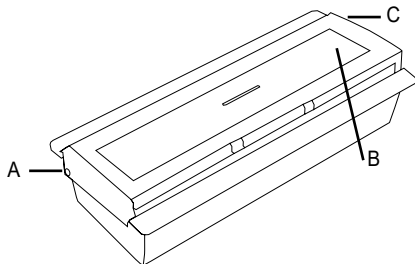

Figure 1: Doorbell-pushbutton
- a) Place the doorbell pushbutton in such a way on the work surface that the pivots of the transparent plastic face are at the rear (fig. 1 A and C).
- b) Using a pointed object (e.g. biro) carefully press now the small pin on the left side (fig. 1 A).
- c) Now you should be able to push up and remove the transparent plastic face (fig. 1 A).
- d) You can now open the small screw (fig. 1 B) using a small Phillips screwdriver and remove the front of the doorbell pushbutton behind which there is the PCB with the battery.
- b) Before assembling ensure that the small screw (fig. 1 B) can grip at the right spot. If required turn one part of the housing by 180°. Please make sure that the rubber gasket sits correctly within the housing.
- d) Carefully drive in the small screw (fig. 1 B) with a small Phillips screwdriver.